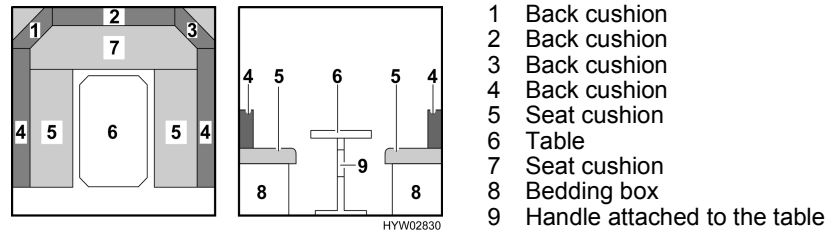

Fig. 35 Prior to conversion
- Lay the back cushions (Fig. 35,1, Fig. 35,2 and Fig. 35,3) underneath the table.
- Place the seat cushions (Fig. 35,5) in an upright position.